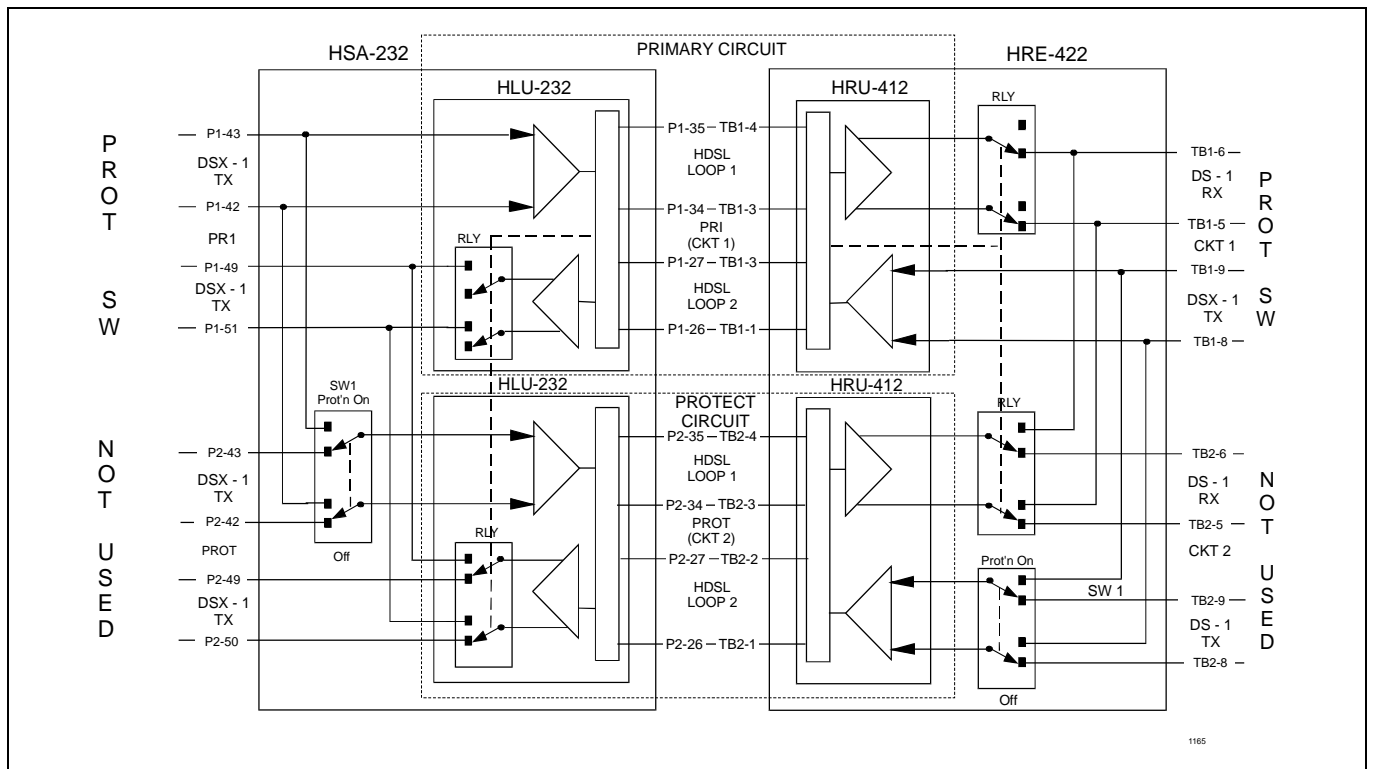

Figure 14. Protection Switch Block Diagram
**14.02** If you are using the protection feature of the HRE-422, slide the PROT'N switch S1 on the outer circuit board to ON to enable the protection feature or to OFF to disable the feature. The LED, CR1, can be viewed from an opening in the rear of the curve. It is normally off but lights up RED whenever the primary system backup fails and the PROTECT system has been switched in to replace it. For all protection switch applications, the PRIMARY remote unit is connected to TB1 and the PROTECT unit is connected to TB2. See Figure 14 for a block diagram of the protection switch circuit. Refer to the HLU-232 Protection Line Unit practice #150-232-100 for more information on protection switching.